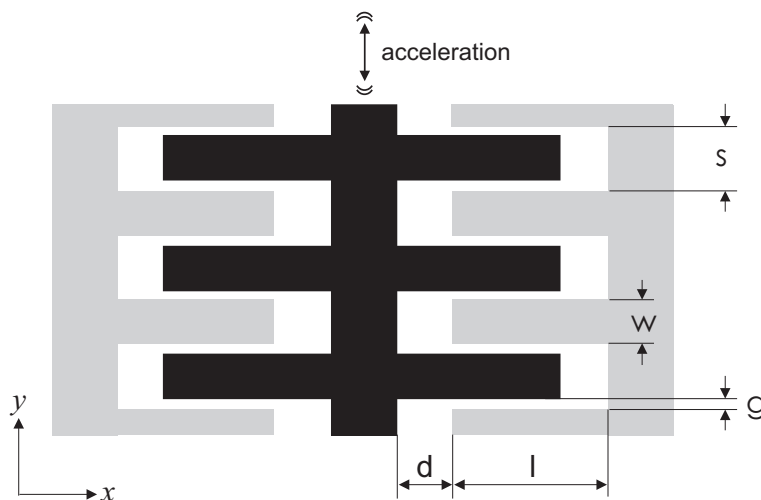

Figure 1: Interdigital sensor
Interdigital sensors are capacitive sensors that can be used for measuring small displacements on or within micro-electro-mechanical devices (MEMS). One example is an airbag sensor where a seismic mass deflects one electrode according to acceleration forces. The given assembly consists of two finger electrodes opposing each other. The desired measurement quantity is the vertical movement (see Figure 1).
- 1.1. Setup the plane assembly as shown in Fig. 1. Choose an appropriate distance to the outer boundary of the calculation region (the sensor operates in air).